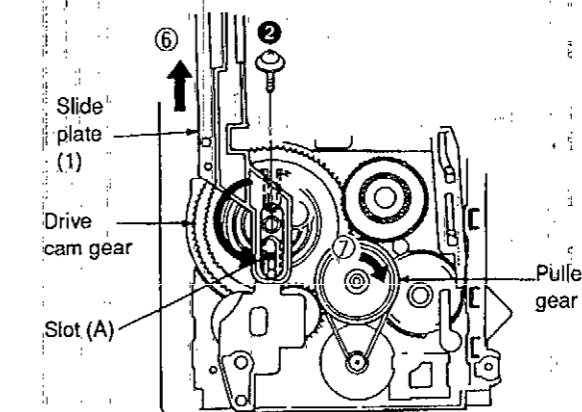
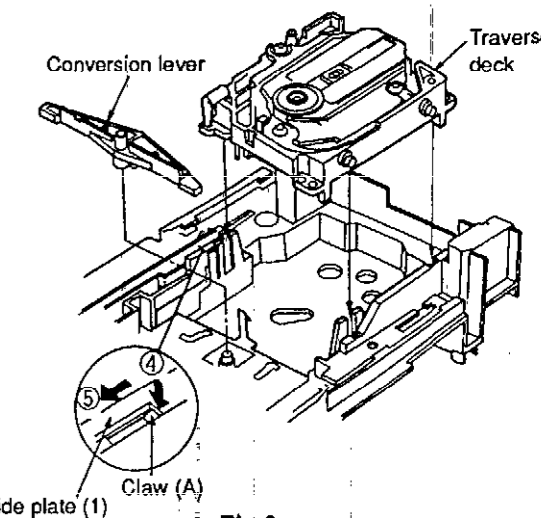

Fig. 10
Fig. 9
16. Push slide plate (1) in the direction of arrow ⑥, so that the catch (A) in Fig. 9 engages with slide plate (1).
17. Secure slide plate (1) with a screw ②.
18. Rotate the pulley gear in the direction of arrow ⑦ so that slot (A) of the drive cam gear is in the position shown in Fig. 10.
14. Press catch (A) in the direction of arrow ④ and then push slide (1) of the loading unit in the direction of arrow ⑤. (See Fig. 9)
15. Install the traverse deck and the conversion lever. (See Fig. 9)